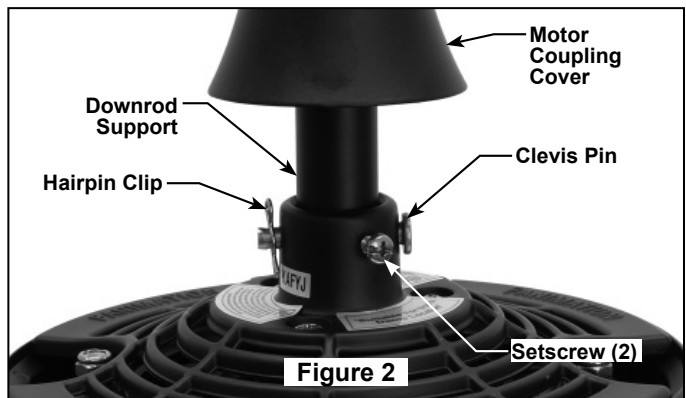

Figure 2
5. Loosen the two setscrews in the Downrod Support. Align the Clevis Pin holes in the Downrod with the holes in the Downrod Support. Install the Clevis Pin and secure with the Hairpin Clip. (Figure 2) Be sure to push the straight leg of the hairpin clip through the hole near the end of the clevis pin until the curved portion of the hairpin clip snaps around the clevis pin. The hairpin clip must be properly installed to prevent the clevis pin from working loose. Pull on the Downrod to make sure the clevis pin is properly installed. (Figure 2)
6. Route wires through opening in Motor Coupling Cover. Position Motor Coupling Cover on fan shown with open side facing down. (Figure 2)
9. While pulling up on the hanger ball, securely tighten the two 3/16-24 x 3/8" setscrews in the downrod support. (Figure 2)